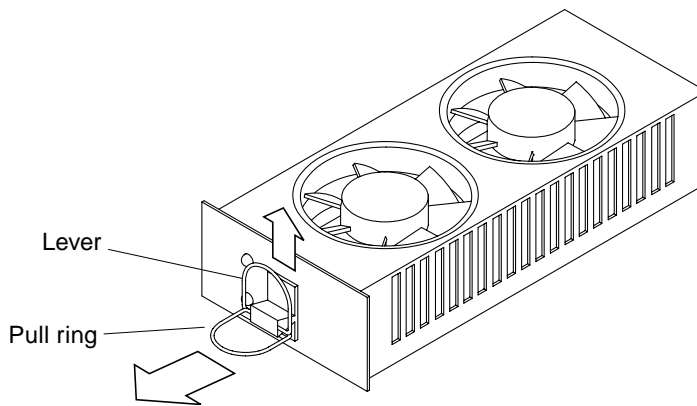

FIGURE 8-2 Power Supply Fan Canister Lever and Pull Ring
1. Use the pull ring to slide the black lever up to release the fan canister (FIGURE 8-2).